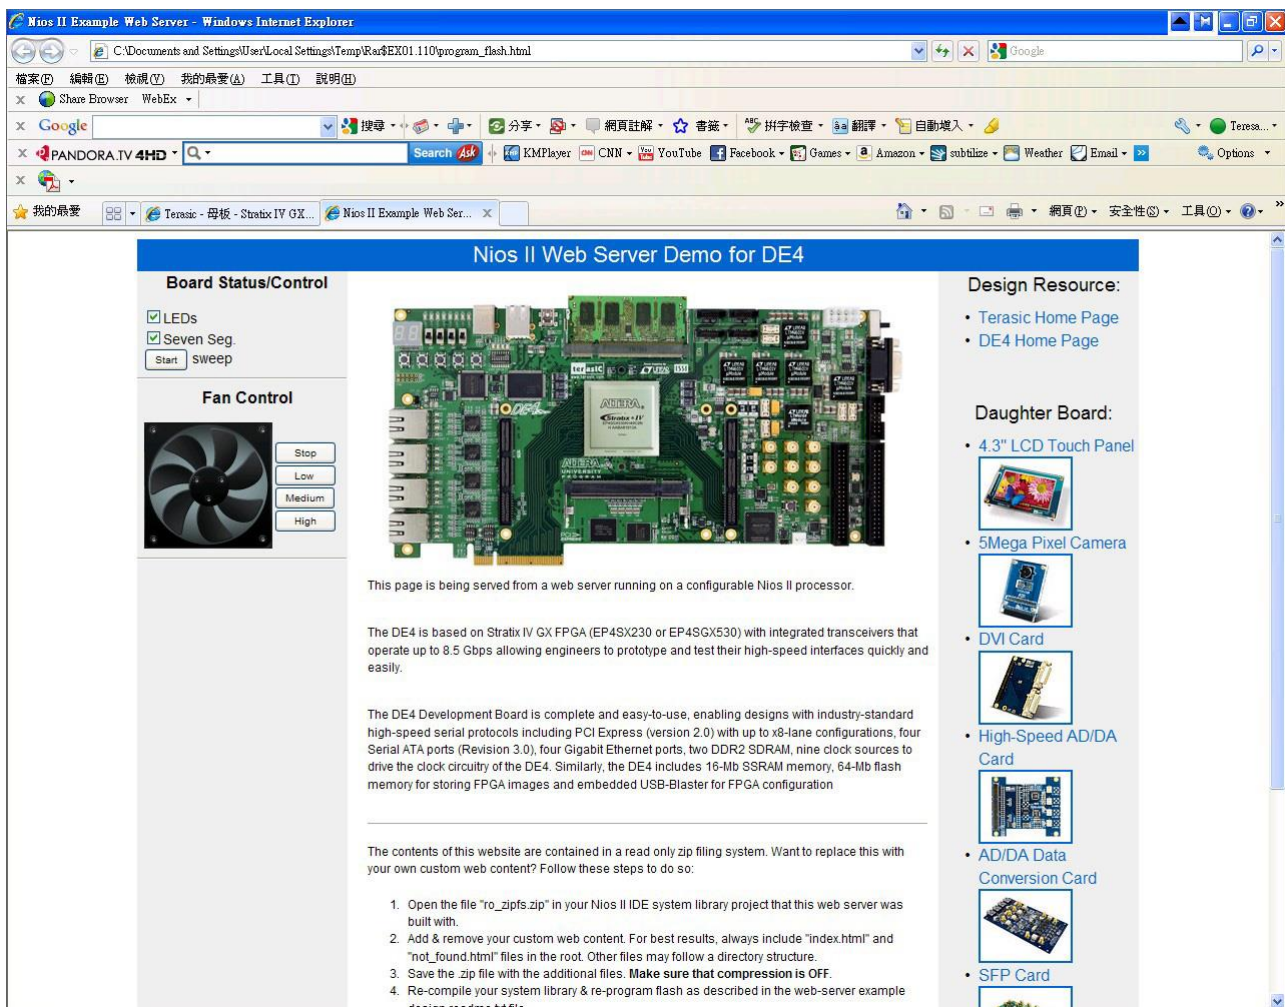

Figure 5–39 DE4 Webserver IE Window
- You will see the brand new DE4 web page on your computer illustrated in **Figure 5–39**.